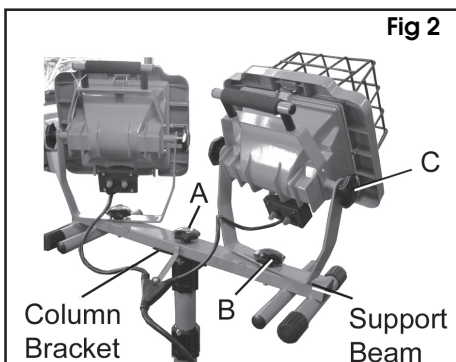

Fig 2
5. Mount the support beam on the tripod column bracket using the hand nut 'A' through the centre hole of the beam and screw it into the threaded hole on top of the column as shown in Fig 2, tightening securely.
6. Attach the lamps to the support beam using the remaining hand nuts shown as 'B', in Fig 2.
**NOTE: Each lamp may be swivelled by slackening the hand screw 'B' in Fig 2, or tilted by slackening the screw 'C'. Ensure the hand screws are re-tightened when adjustments are completed.**